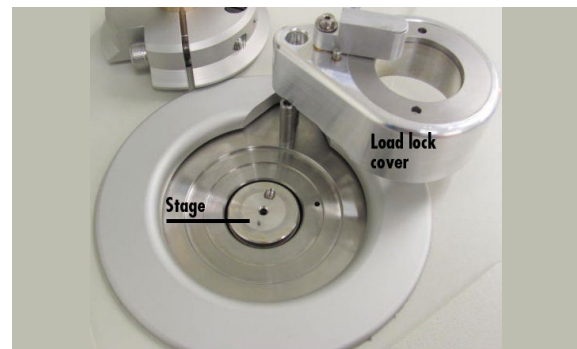

Figure 5. Lift the load lock cover and then rotate it to expose the stage.
2. Lift the load lock cover and then rotate it to expose the stage (Figure 5).